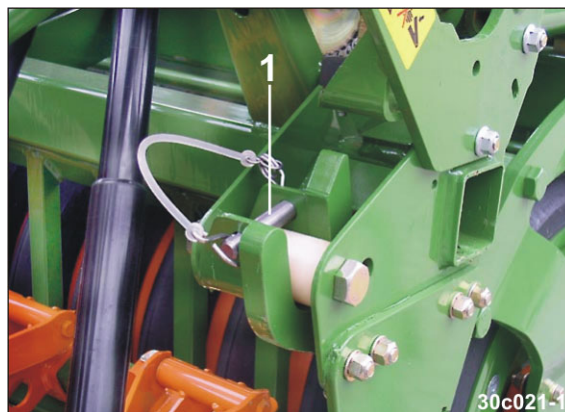

Fig. 120
12. Remove both catch hook lock pins (Fig. 120/1).